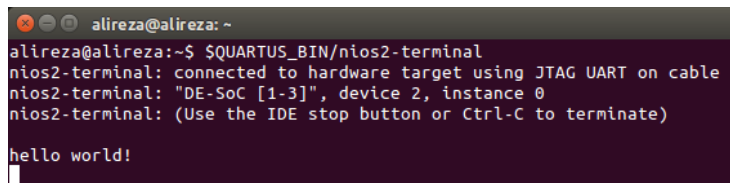

Figure 5.28: nios2-terminal output snapshot.
9. Open Terminal and type `$QUARTUS_BIN/nios2-terminal`. You must be able to observe the "Hello world!" sentence in the terminal as shown in Figure 5.28.